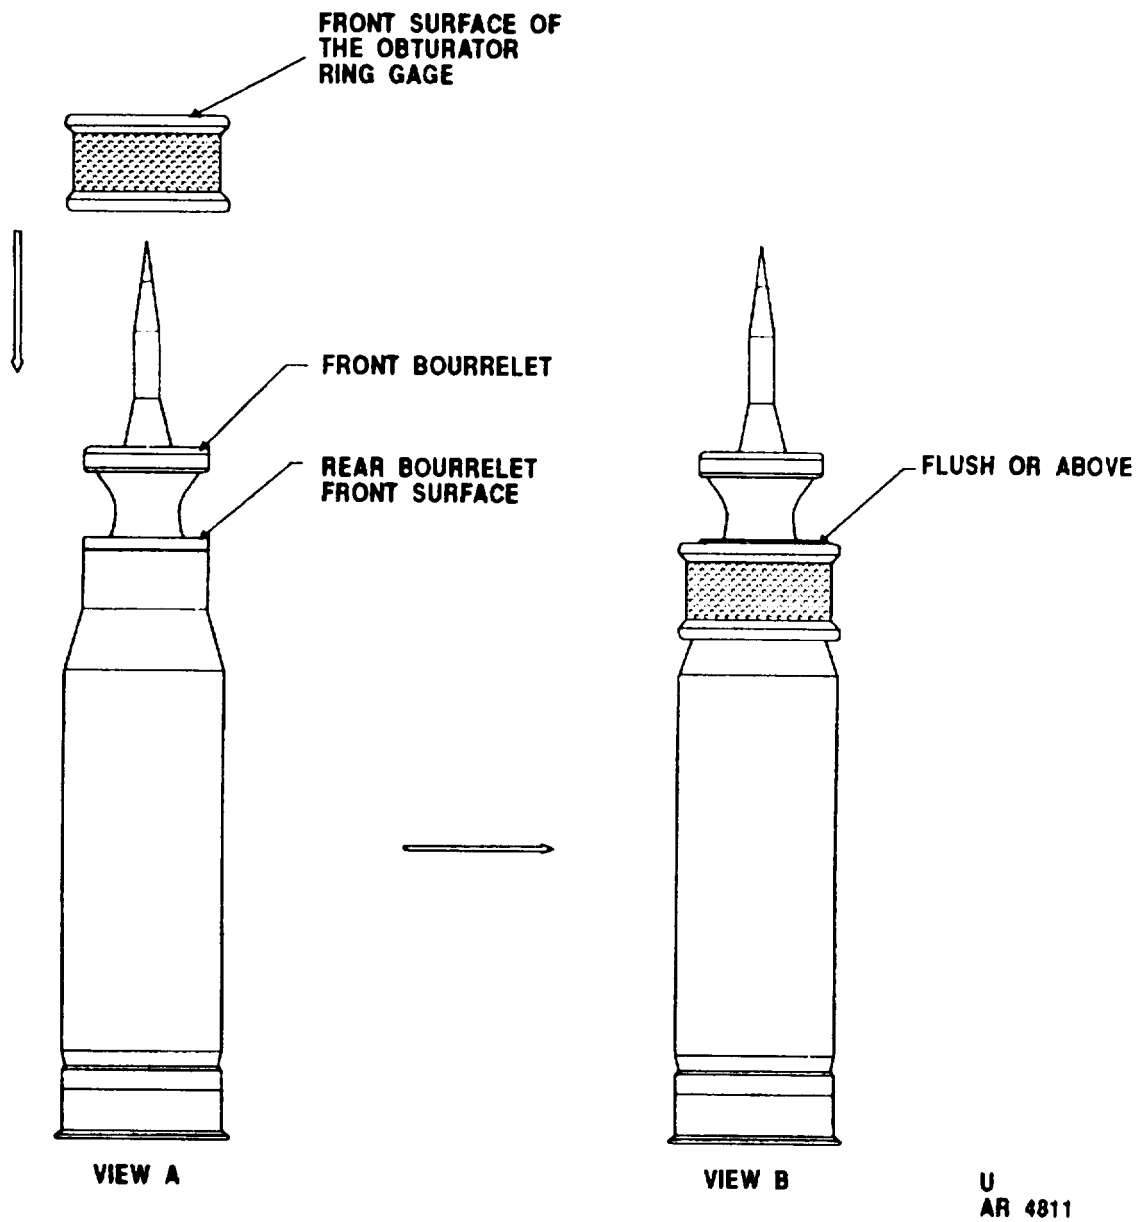

Figure 4-8. Obturator ring gage.
- (1) Remove cartridge from shipping container.
- (2) Place cartridge in vertical position on felt padded work table (protect primer) with top pointed upward.
- (3) Wipe cartridge with a clean cloth.
- (4) Pass the obturator ring gage over the forward bourrelet and seat the gage gently on the obturator (fig. 4-8, view a).
- (5) Cartridge is acceptable if front surface of rear bourrelet is flush or above flush with front surface of ring gage (fig. 4-8, view b).